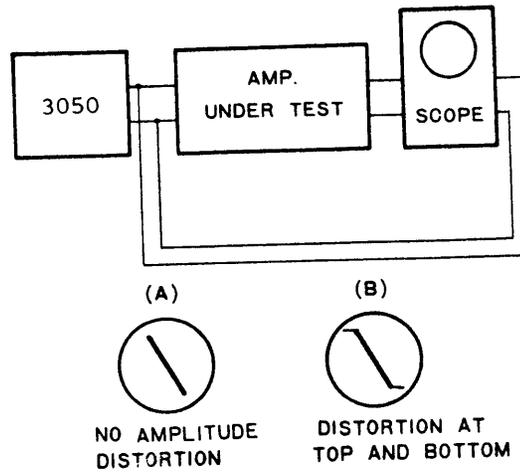

Fig. 7. Phase characteristic measurement.
- b. To determine phase shift, connect the 3050 and an oscilloscope to the amplifier under test as shown in Fig. 7. If there is no phase shift of the output with respect to the input signal of amplifier under the above condition, the oscilloscope waveform will be a straight line similar to that shown in Fig. 7(A). If the straight line displayed is curved at its top and bottom sections as shown in Fig. 7(B), it indicates that the output signal of amplifier contains amplitude distortion. If this occurs, reduce the output level of the 3050.